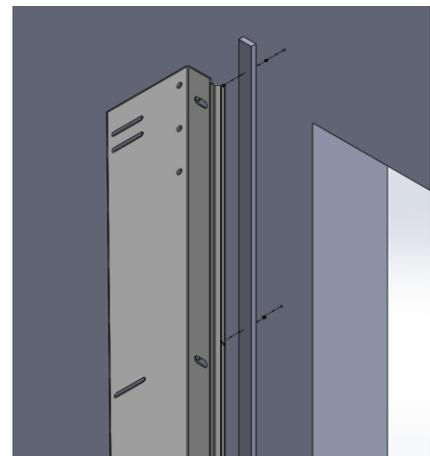

Figure 4
1. Take polyester foam strip and stick the side with PSA against mounting rail. Place foam on exterior face of the mounting rail's short leg. The foam should be compressed between the mounting rail and wall when door is installed (**See Figure 4**).